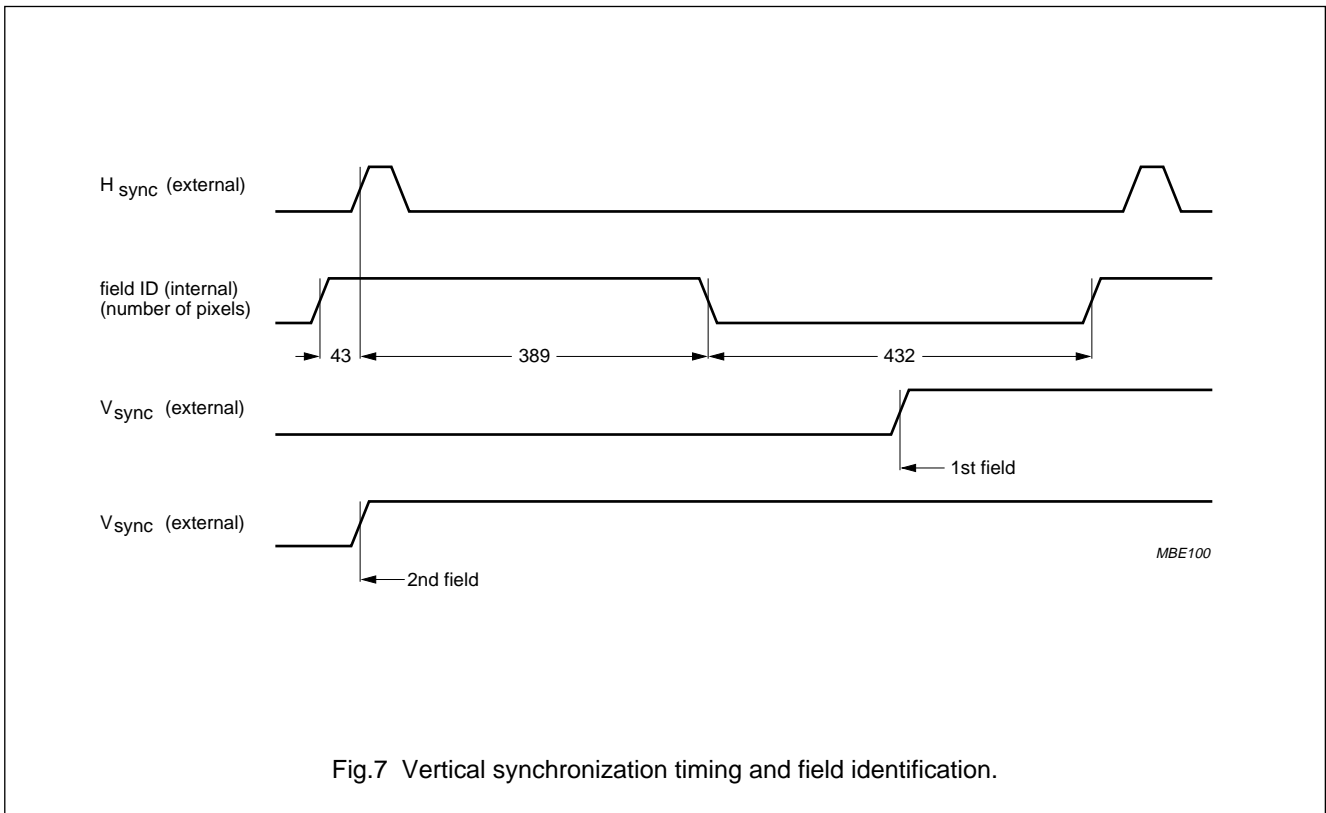

Fig.7 Vertical synchronization timing and field identification.
The MVFILT and SVFILT bits can set the type of vertical filtering. The MUVPOL and SUIPOL bits invert the UV polarity of the incoming signals. The MVSPOL and SVSPOL bits determine the active edge of the V_{sync} (see Fig.7). MHSYNC and SHSYNC bits determine the timing of the H_{sync} pulse (burstkey or H_{sync} timing). The MFPOL and SFPOL bits can invert the field identification (ID) of the incoming fields (see Fig.7).
The DVSPOL bit determines the active edge of the V_{sync} (see Fig.7). The DHSYNC bit determines the timing of the H_{sync} pulse (burstkey or H_{sync}). The DFPOL bit can invert the field identification of the incoming fields (see Fig.7).